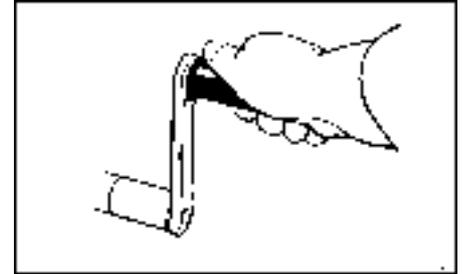

Figure 3.2.2 Holding the Starting Handle
9. Firmly hold the handle grip, with the thumb on top of the grip as shown in 'Figure 3.2.2', and crank the engine really fast, when sufficient speed is obtained move the decompressor lever towards the gear end.